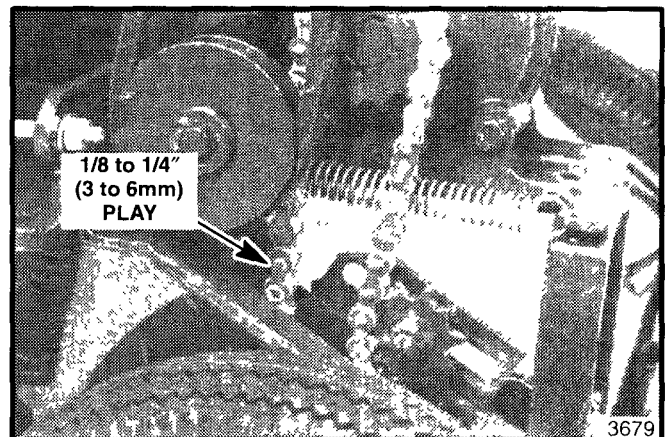

Figure 13. Chain Tension
- 5 Tighten the chain by adjusting the idler sprocket until there is only 1/8 to 1/4" (3 to 6 mm) movement in the chain opposite the idler (see figure 13). Tighten the idler sprocket hardware